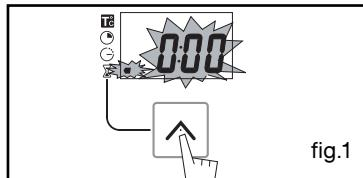

fig.1
- Press the " ^ " (fig.1) button until the timer symbol begins to flash